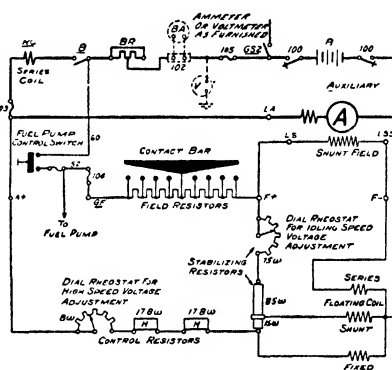

Fig. 32. Fundamental Connections of Voltage Control Relay
**OPERATION. 1. Connections.** Fig. 32 shows the fundamental schematic connections. The auxiliary generator shunt field is separately excited from the locomotive battery through the relay field resistors and contacts.